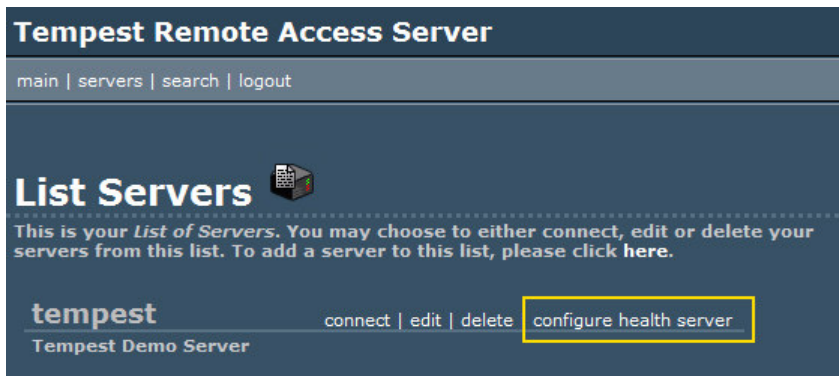

Figure 22. Configure Health Server
6. An entry with your DVR's host name will appear. Click on **Configure Health Server** next to this entry, as shown in Figure 22.